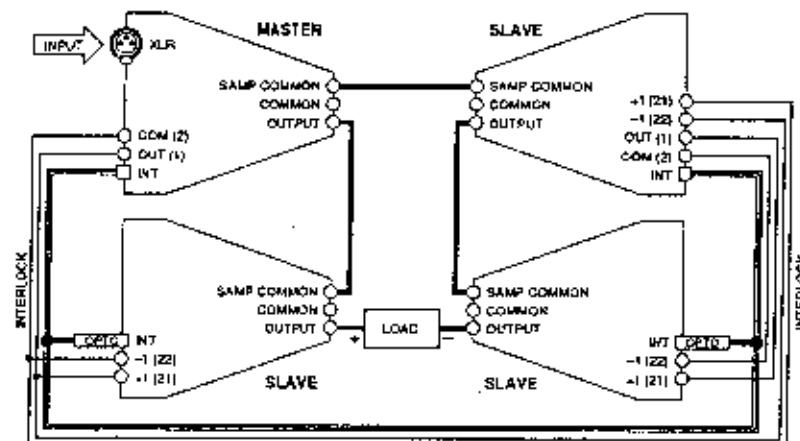

Fig. 3.22 Interlock Push-Pull Series System Wiring
amplifiers. Up to ten amplifiers can be interlocked in a Push-Pull Series configuration. Figure 3.22 shows the basic system connections.
4. Make an interlock cable as shown in Figure 3.22 and connect it to the 37-pin System Interlock connector of each amplifier. Be sure to protect the system with optical isolators (available from Crown) as shown in Figure 3.22.
5. Interconnect the Output and Sampled Common terminals of each amplifier as shown in Figure 3.22.